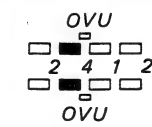

Fig. 1
3. Set RV106 and RV206 MIN and adjust RV107 and RV207 so that LOW segment lights up dimly as shown in Fig. 1.